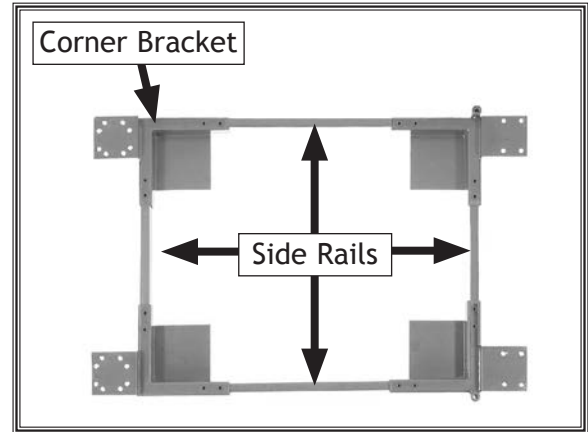

Figure 3. Side rails inserted into corner brackets.
1. After sliding a side rail into each of the four corner brackets that you laid out while assembling your mobile base (see **Figure 3**), determine which side you will attach this kit to.